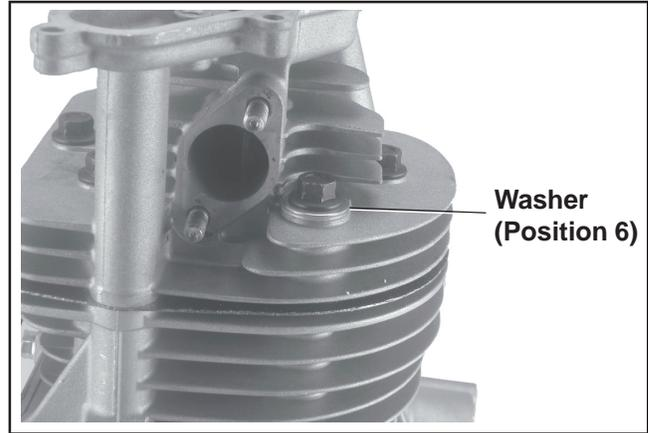

Figure 10-35. Installing Cylinder Head Fasteners.
5. Install the cylinder head and start the six hex. flange screws. Install the thick washer on the screw closest to the exhaust port. See Figure 10-35.